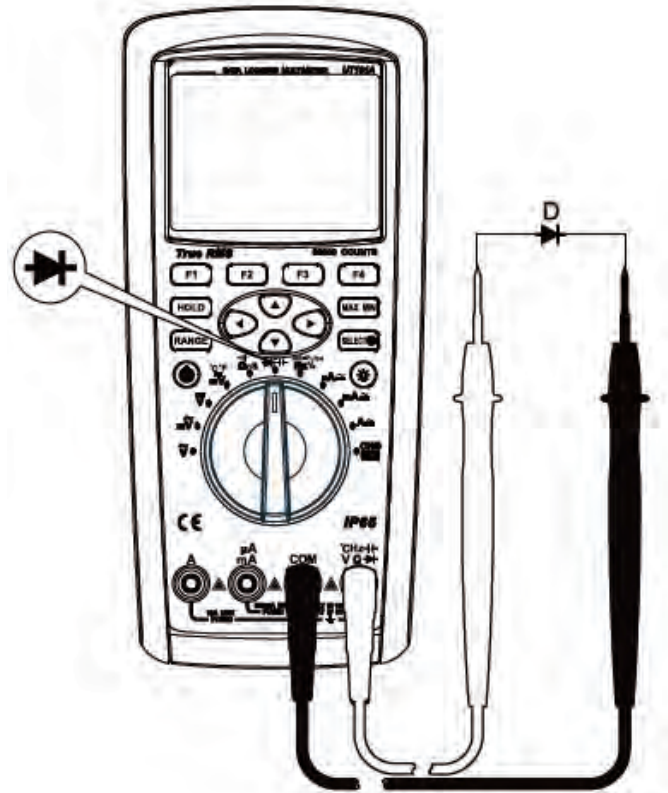

Figure 10
- 2) Set the rotary switch to the  position. The meter will default to Diode measurement. Connect the test leads to both ends of the diode as shown in Figure 10. Directly read the approximate forward PN junction voltage of the measured diode on the display.